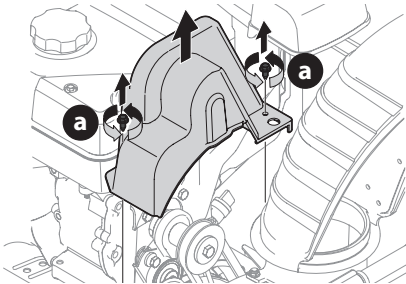

Figure 85
2. Remove plastic belt cover on front of engine by removing two self-tapping screws (a) (Figure 85).